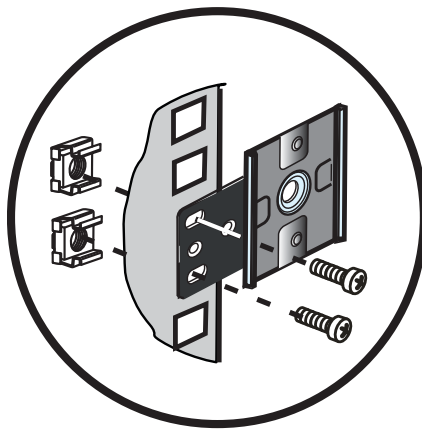

Figure 19. Attaching the Rotated Clip to the Rail
6. Locate the two clip feet and two screws (supplied). Turn the straight part of the bracket 90° (see Figure 19).